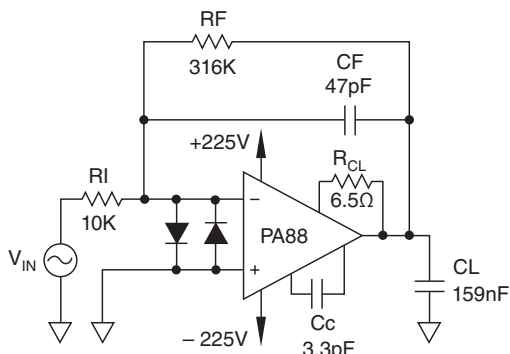
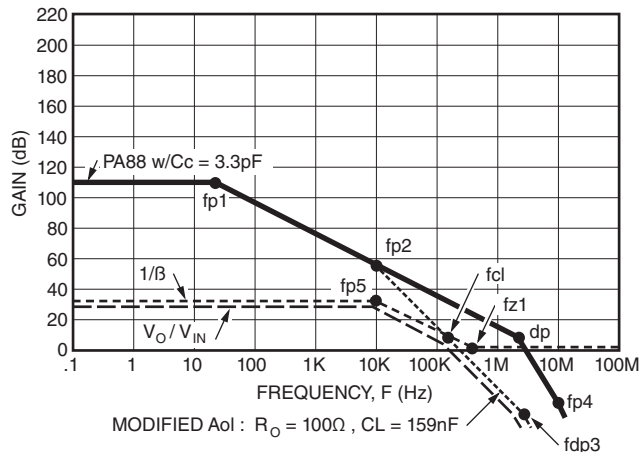

FIGURE 26. FEEDBACK ZERO COMPENSATION FOR CL
FIGURE 27. FEEDBACK ZERO COMPENSATION FOR CL MAGNITUDE PLOT FOR STABILITY
Figure 26 illustrates a circuit utilizing Feedback Zero Compensation for stability when driving a capacitive load. Figure 27 is our magnitude plot to work with for stability. The following procedure will ensure a logical approach to optimize stability:
The higher frequency poles of the unmodified PA88 Aol must be added into the modified Aol as shown in Figure 26.
fcl such that if the modified Aol plot in the real world moves to the left towards lower frequency we will not be back at a 40 dB per decade rate of closure. Note in Figure 27 that the $1/\beta$ plot has fp5 and fz1. The feedback network continues to feed back output voltage beyond fcl until we reach 0 dB. Then the $1/\beta$ plot flattens out at 0 dB. It is important to include fz1 since it will be a pole in our open loop phase check
STEP 5: Once you have chosen CF to get the f_{p5} you want you automatically set f_{z1} . f_{z1} can be gotten graphically from the $1/\beta$ plot. For those of you who want exact breakpoints, here are the formulae for the $1/\beta$ plot in Figure 27.